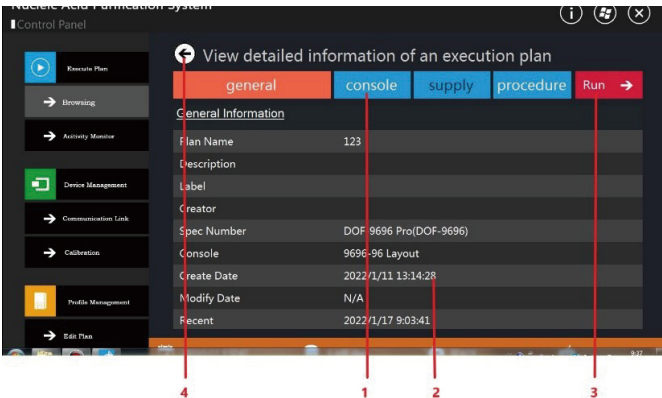

Figure 7. User Interface of Basic Information of Execution Plan
Click any stored execution plan box in the central operation interface ④ to enter the detailed interface of the execution plan, as shown in Figure 7. ① in Figure 7 represents the content classification label of the execution plan. The information stored in an execution plan is divided into four categories, which are basic information, experimental cabin information, consumables information and experimental program. Click on each label, and the system will present corresponding information to users in ② in Figure 7. For example, Figure 7 displays the basic information of the execution plan, including name, description information, plan creator, creation, modification and recent running time of the plan, etc.
After confirming the required execution plan by browsing the detailed information, the user can click "Run" in ③ in Figure 7. If the user wants to continue browsing other execution plans, click the back button in ④ in Figure 7 to return to the sorting and filtering interface of execution plans.